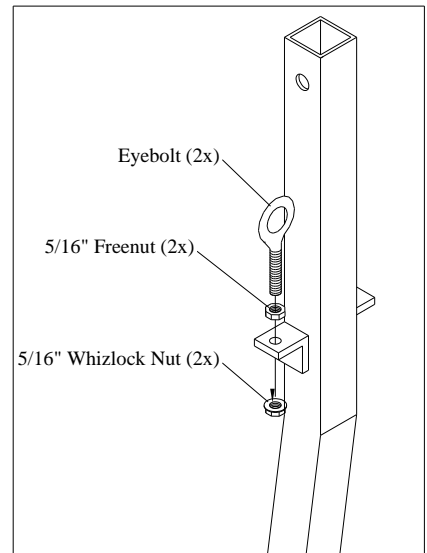

Fig. 6
6. Attach eyebolts (8) to brackets on vertical support by trapping brackets between 5/16" hexnut and 5/16" whizlock. Rotate eyebolts so that eyelets face from front to back. **(Fig. 6)**